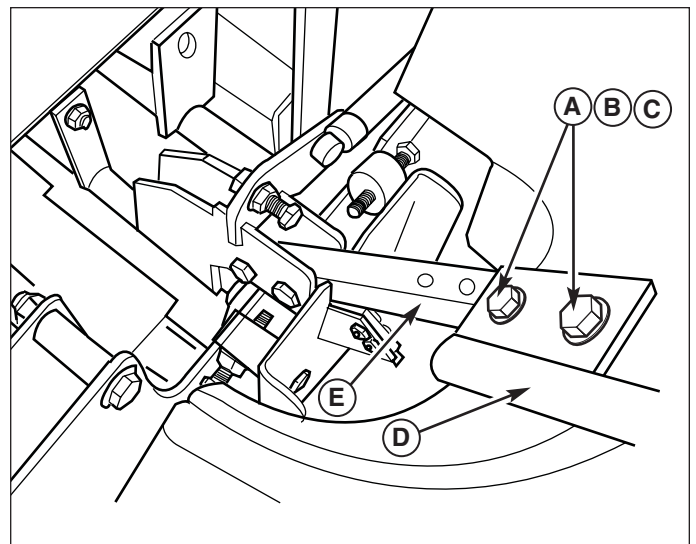

Figure 4. Install Control Levers
1. Mount the ground speed control levers (D, Figure 4) to the control lever base (E) using four 5/16-18 x 1" bolts, lockwashers, and washers (A, B & C).